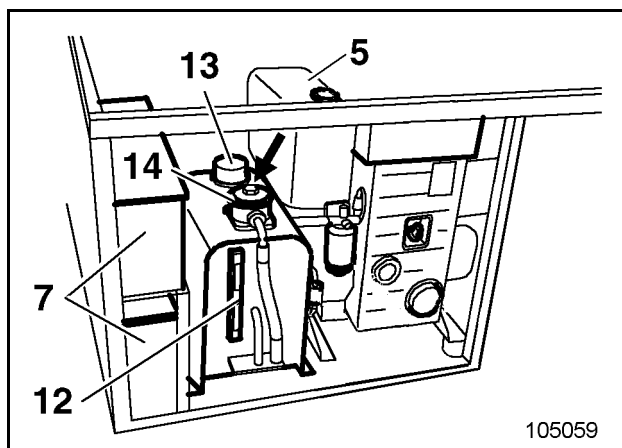

Fig. 3-129:
- Fill up fuel tank through filler (5, Fig. 3-129:) after each deployment.
- Check batteries (7) and cable connections at regular intervals.
- Prior to each deployment, check the hydraulic oil level at the inspection glass (12, Fig. 3-129:); top up if necessary.
- Check contamination of hydraulic oil filter regularly at contamination indicator (arrow, Fig. 3-129:).
- Regularly, but at least once a year replace the hydraulic oil filter (14) and the breather filter (13).